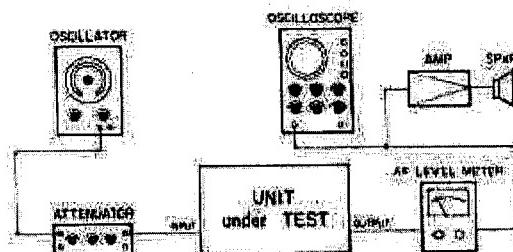

Fig. 9-5-9. Level or Frequency Response Measurement Set-up
1. Connect the test equipment to CH1 INPUT and CH1 OUTPUT as shown in Fig. 9-5-9.